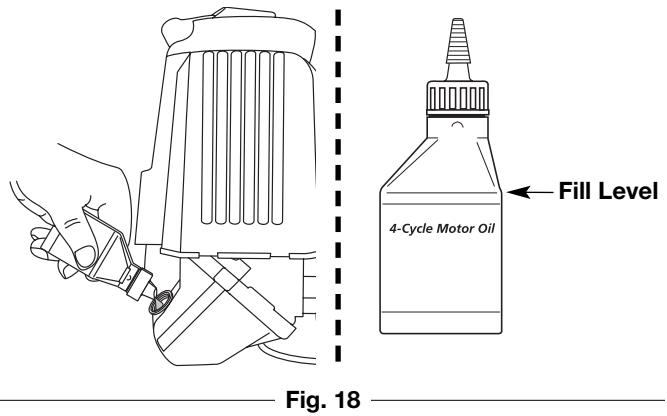

Fig. 18
- Swing the cover to the left until the tab on the air filter cover snaps into place in the slot on the left side of the air filter housing (Fig. 18).